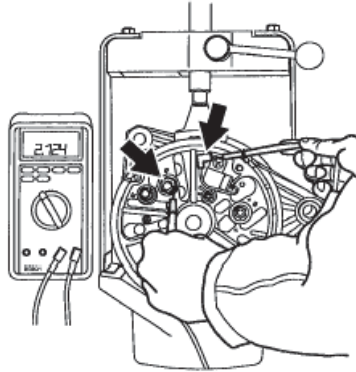

Figure 8 Testing of Suppression Capacitor
2. Connect Multimeter MMD 302 (Bosch Number 0 684 500 302) or equivalent to the lead of the suppression capacitor and the B- terminal of the alternator. (Figure 8)